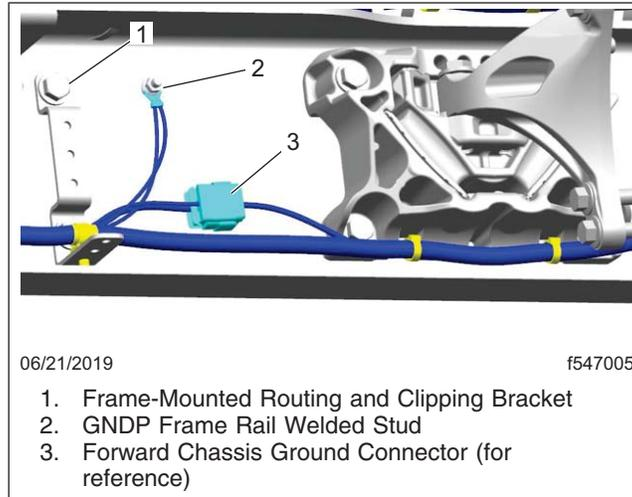

Fig. 9, GNDP Frame Rail Stud
- Verify that the Electrical Ground (GNDE) and the Power Ground (GNDP) frame rail studs are clean and torqued correctly. Disassemble and inspect the studs for overspray on the flat surfaces, and in between the ring eyes. Torque these frame rail ground studs 14 lbf-ft (19 N·m). Repaint the connection as necessary. See **Fig. 9** on page 10.